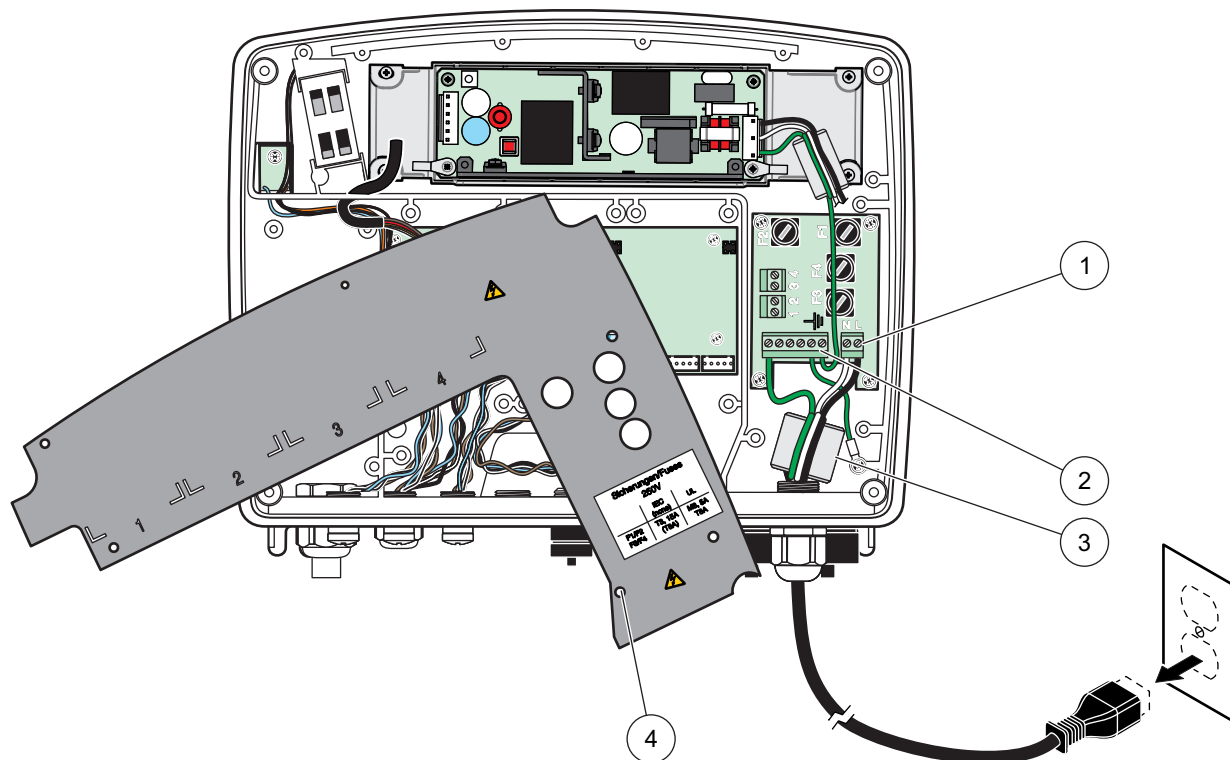
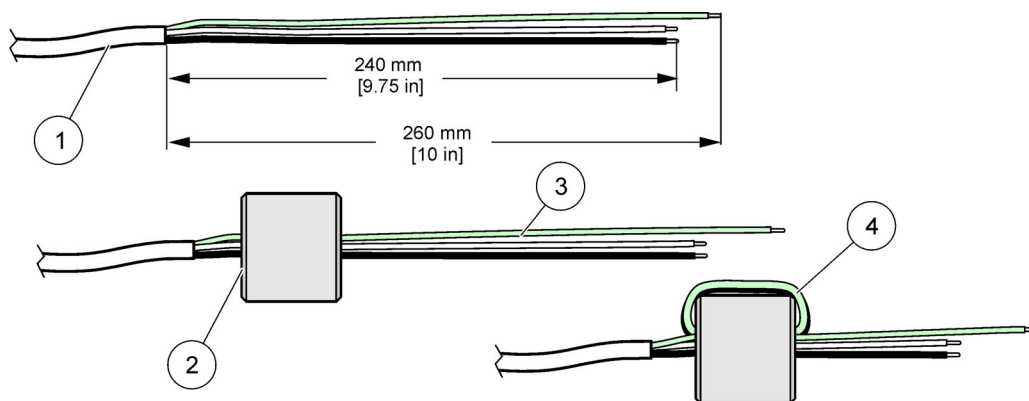
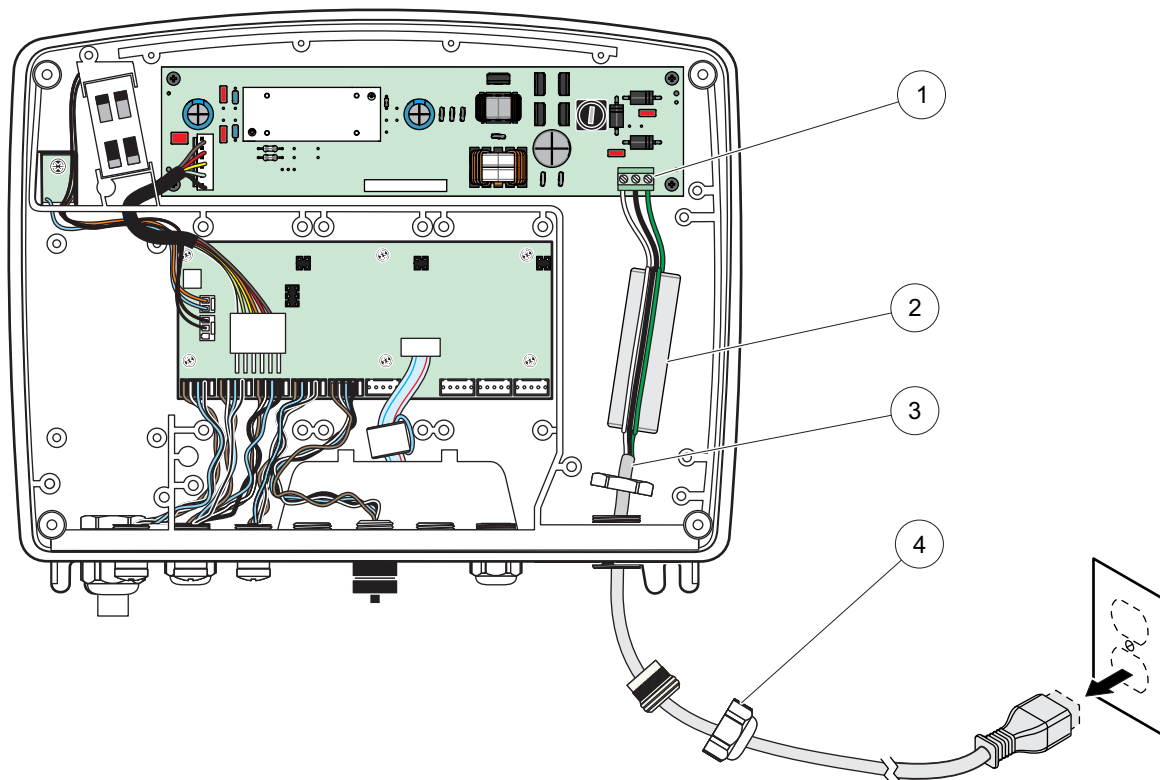

Figure 10 Wiring for power
Figure 12 Proper wire preparation and ferrite core wiring
Figure 16 Wiring for 24 VDC power
6. Strip the cable outer insulation 260 mm (10 in.) (Figure 12). Shorten all wires except the earth wire 20 mm (0,78 in.), so the earth cable is 20 mm (0,78 in.) longer than the other cables.
7. Feed the stripped power cable through the ferrite core twice (Figure 12) and wire into the terminal as shown in Table 1 and Figure 10. Tug gently after each insertion to make sure that the connection is secure.
7. Feed the stripped power cable through the ferrite core twice (Figure 12) and wire into the terminal as shown in Table 2 and Figure 16. Tug gently after each insertion to make sure that the connection is secure.